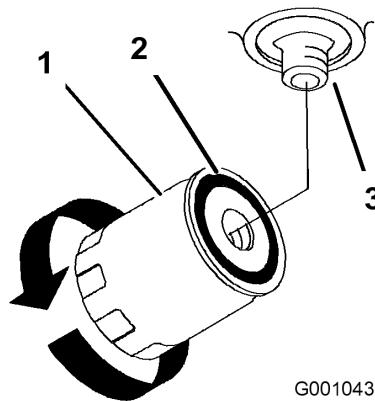

Figure 64
7. Apply a thin coat to the rubber gasket on the replacement filter (Figure 64).
clockwise until the rubber gasket contacts the filter adapter, then tighten the filter an additional 1/2 turn (Figure 64).